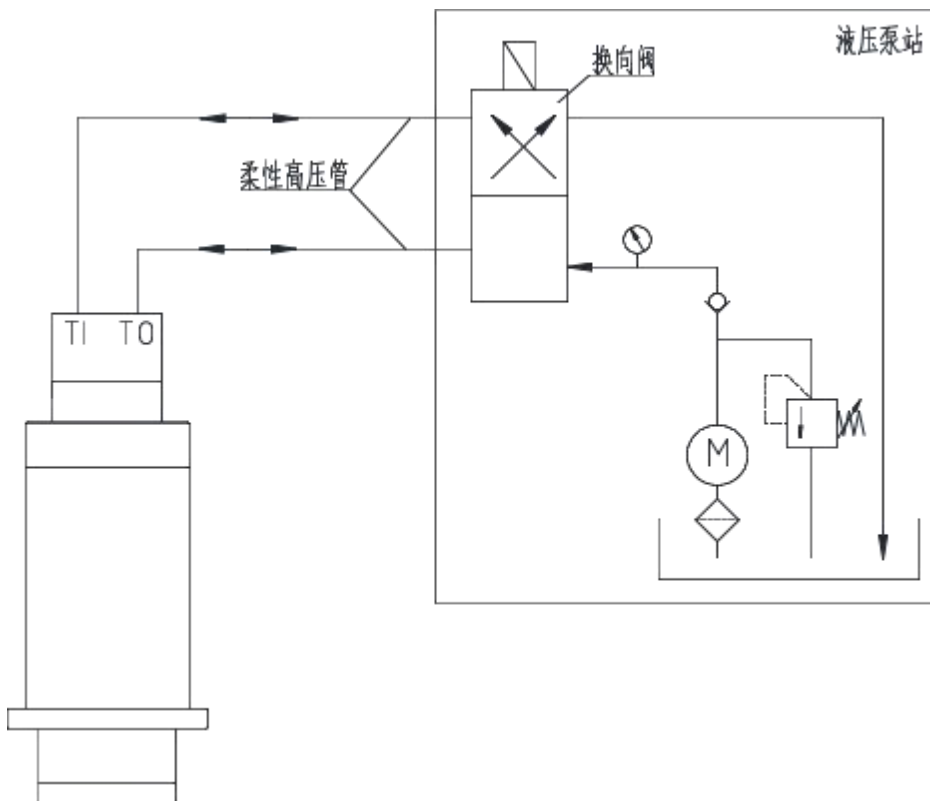

Figure 4.9 Hydraulic tool change system connection diagram
- 1)Hydraulic tool change system can be connected according to Figure 4.9;